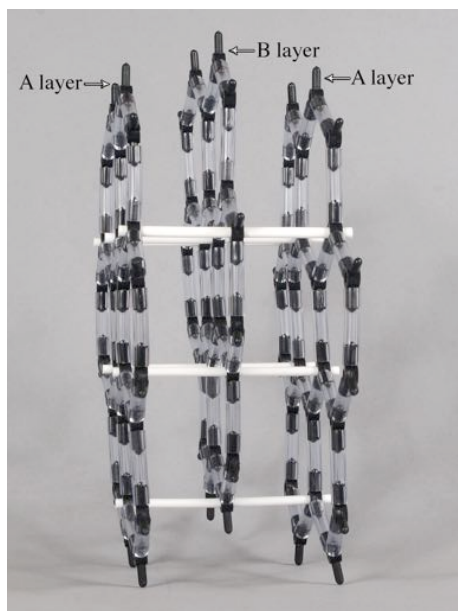
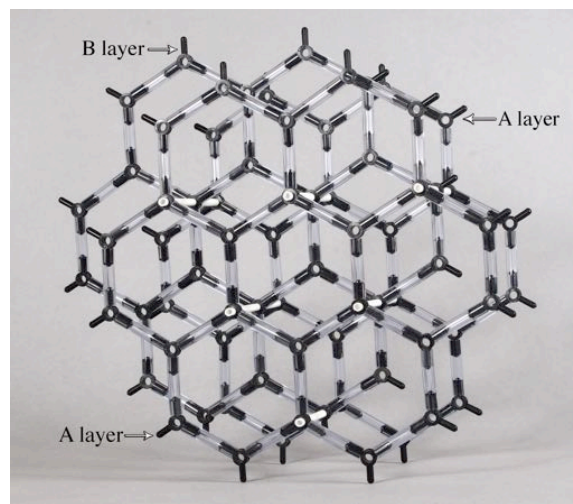

Fig 1 ABA arrangement in graphite (side view).
Fig 2 ABA arrangement in graphite (front view).
The layering of graphite is described as ABA, which means that if three layers, or more, are observed, the next to the bottom-most layer is slightly offset so that the atoms of the two layers are not in register. However, the third layer is in register with the first layer, but not the second. See Figs 1 and 2 which show three layers of graphene in the ABA crystal structure.
6. For displaying the model, the three layers may be strung together by running a string through a hole in one atom center of each layer. Alternately, the rigid, white tubing may be used to separate the layers at some fixed distance as in Fig 1 and Fig 2.